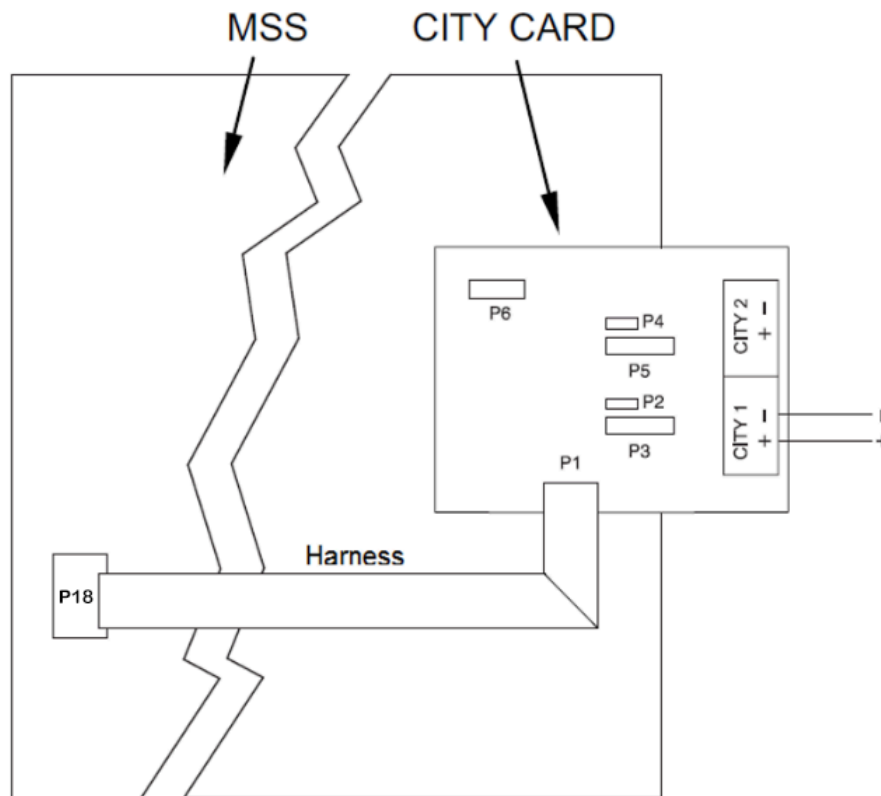

Figure 19: City card connection with system board
6. Connect one end of the power and communication harness to the connector labeled **P1** on the city card as shown in Figure 19.
7. Connect the other end of the power and communication harness to the connector labeled **P18** on the system board as shown in Figure 19.